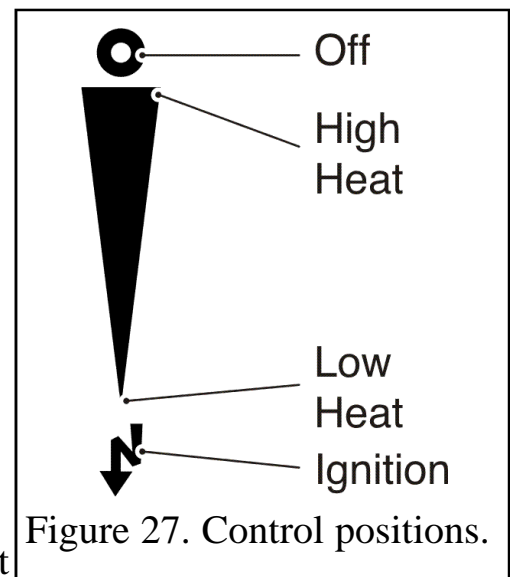

Figure 27. Control positions.
The control position markings on the fascia are shown in figure 27.
1. Gradually slide the button up to increase the burner setting. The burner should be at its maximum setting at the high heat position shown in figure 27. You should feel a check to the button movement at this position.